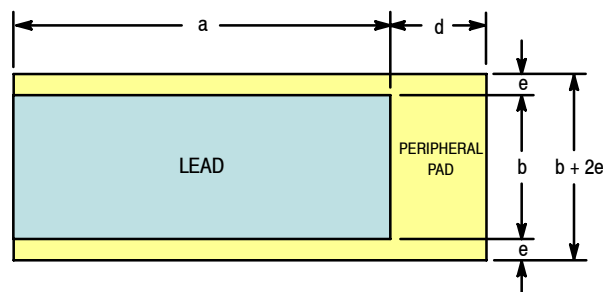

Figure 5. Exposed Metal of Peripheral Pad Layout Recommended in AN2467
7. Specify that the peripheral pad extension past the package (dimension "d" in Figure 5) is at least 40% of the peripheral lead length nominal dimension.